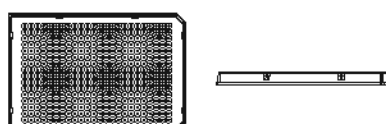

Figure 6: Full-skirted 384 well microplate with two notches for Real Time PCR systems such as LightCycler® 480 from Roche
3. Full-skirted 384 well microplate with two notches for Real Time PCR systems such as LightCycler® 480 (Fig. 6)